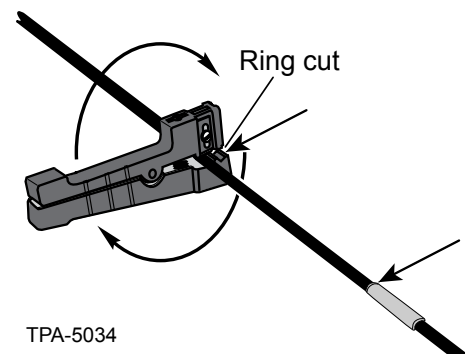

Figure 15
- Step 1:** Use the Ideal® tool to make the first ring cut at one of the tape marks (Figure 15).